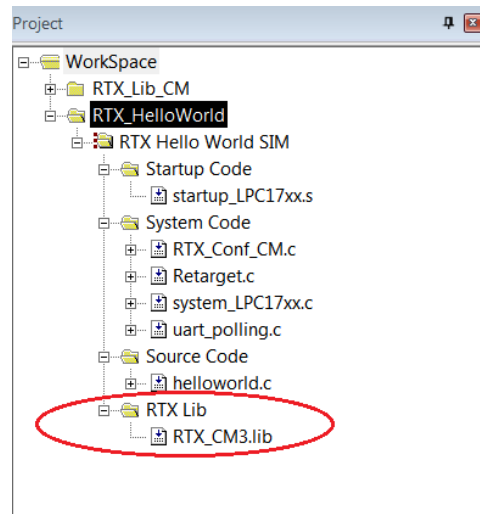

Figure 2.27: Keil IDE: Adding Your Own RTX Library
3. Add the RTX library we built (i.e. RTX_CM3.lib) to the project (see Figure 2.27).